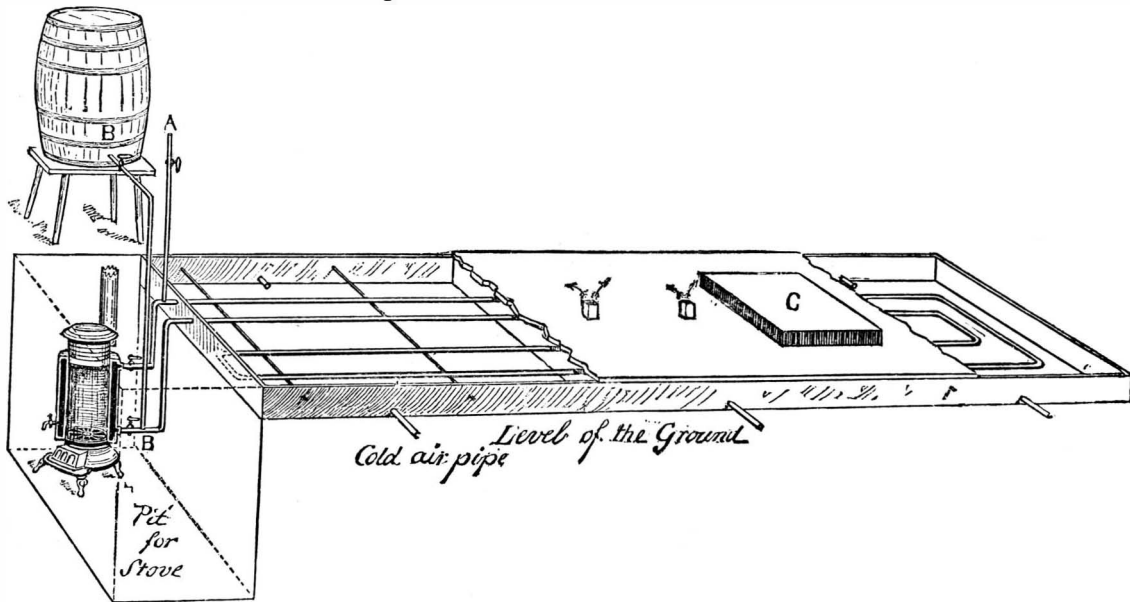

Fig. 2.—METHOD OF HEATING BROODERS.
The brooders are heated by hot water pipes (not steam) arranged as shown in Fig. 2. A stove with a circular water back (or boiler surrounding it) heats the water, which rises as it becomes heated, and flows into the pipes, returning to the boiler near the bottom of the stove. Observe the way the pipes are arranged, the first and last being together, thus evenly distributing the heat. A tube, half an inch in diameter (A), is intended to allow the escape of air in the pipes, and is also a safety valve. It is attached to the hottest or highest pipe. B is a keg or barrel filled with water, and connected with the lower pipe, to give pressure to the water. The stove is in a pit, below the ground.